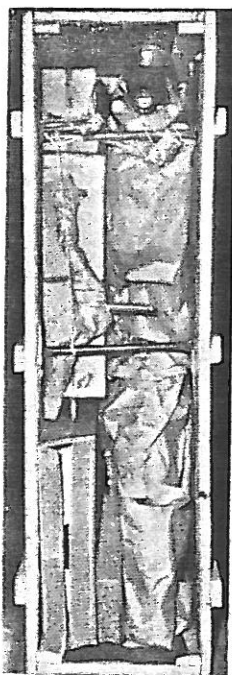

fig. 1
1. After removing the lid of the crate you will observe that packing braces are located at the handlebar and seat post. (Fig. 1). Remove the bolts fastening the packing braces to the side of the crate, and remove braces.